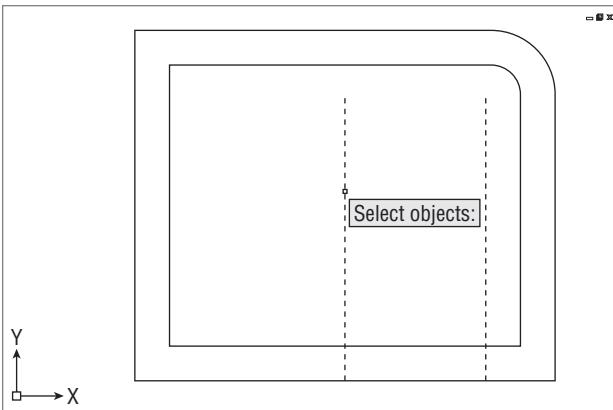

FIGURE 2.33 Lines selected to be cutting edges
2. Pick the two vertical offset lines that were just extended as your cutting edges, and then press ↵ (see Figure 2.33).